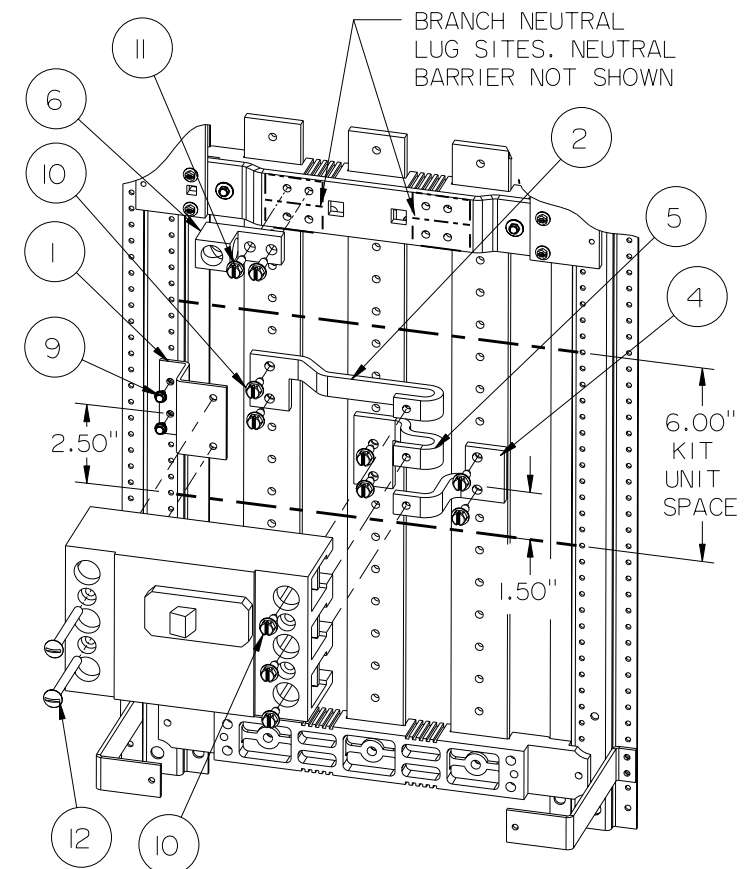

Figure 3
6. Refer to fig. 3. - Position the breaker support (item 1) on the base rail in the center of the 6" kit unit space as shown. Fasten it to the base rail with two 8-32 screws (item 9). Fasten the long outer connector (item 2), the center connector (item 5) and the Type B short outer connector (item 4) to the panel bus with six 1/4-20 X 5/8" screws (item 10).
- 8A. TO INSTALL A 3-POLE BREAKER, position the breaker with its load-side mounting holes aligned with the holes in the breaker support (item 1). Bring the breaker line pads into contact with the connectors. Fasten the breaker to the the support with two 1/4-20 X 2-1/2" machine screws. (item 12). Do not tighten until the bus connections are made. Fasten the breaker line pads to the connectors with three 1/4-20 X 5/8" screws (item 10).
- 8B. TO INSTALL A 2-POLE BREAKER, position the breaker with its load-side mounting hole aligned with either hole in the breaker support (item 1). Bring the breaker line pads into contact with the connectors. If mounted to the upper support, the breaker connects to the upper connectors (items 2 & 5). If mounted to the lower hole, it connects to the lower connectors (items 5 & 4). Fasten the breaker to the support with one 1/4-20 X 2-1/2" machine screw (item 12). Do not tighten until the bus connections are made. Fasten the breaker line pads to the connectors with three 1/4-20 X 5/8" screws (item 10).